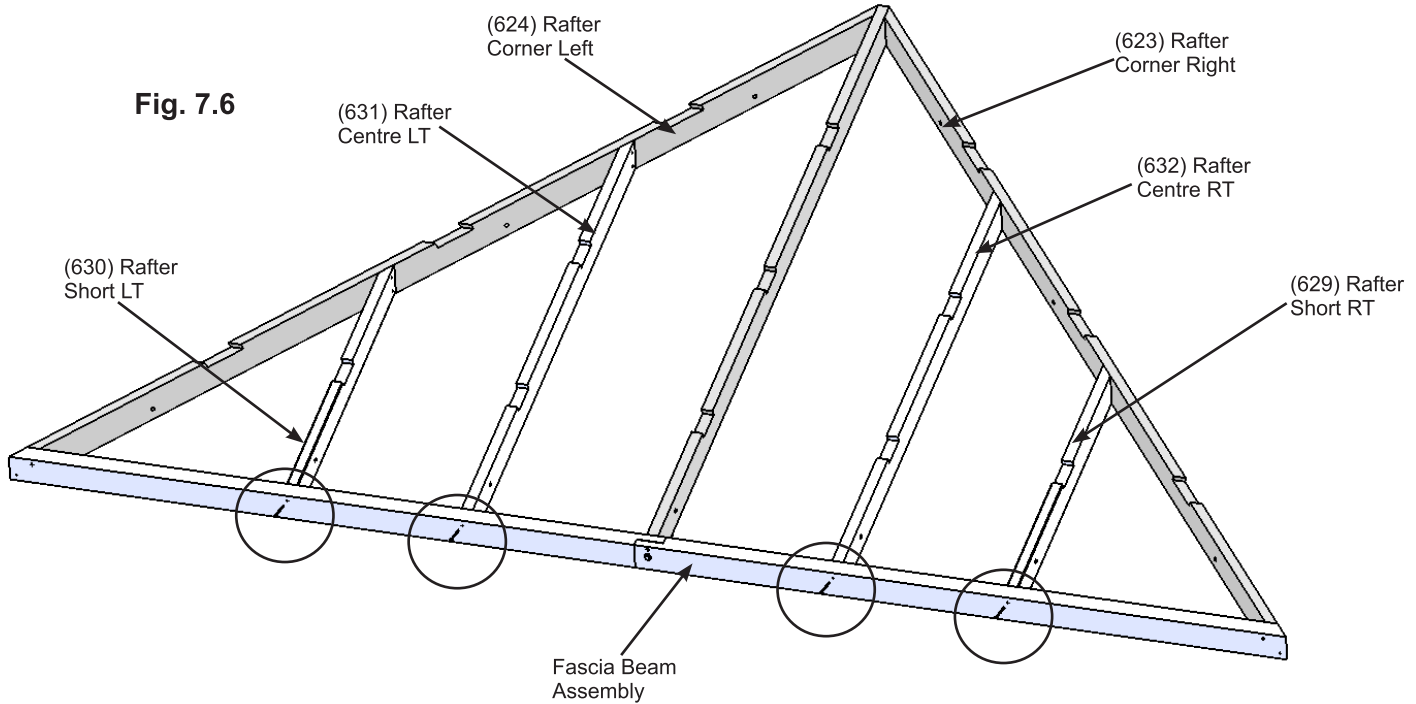

Fig. 7.6
D: Place one (629) Rafter Short RT, one (632) Rafter Centre RT, one (631) Rafter Centre LT and one (630) Rafter Short LT over the pilot holes in the Fascia Beam Assembly so they are flush to the top of the assembly and tight to both (623) Rafter Corner Right and (624) Rafter Corner Left, as shown in fig. 7.6. Attach Fascia Beam Assembly to rafters with one #8 x 2-1/2" Wood Screw per rafter. Repeat for second Small Roof Assembly. (fig. 7.6, 7.7 and 7.8)